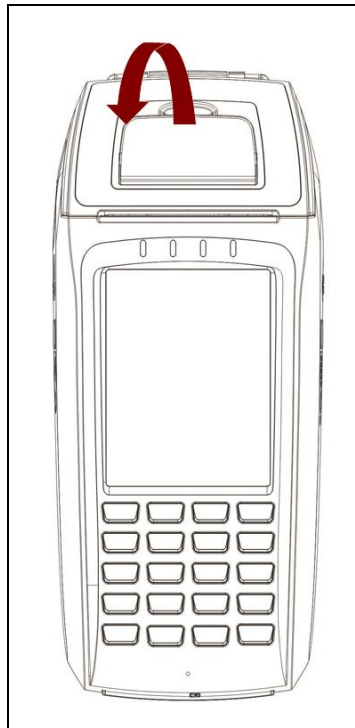

Figure 4: ACR890 – Opening the Printer
1. Carefully lift the tab of the printer cover (see **Figure 4**).